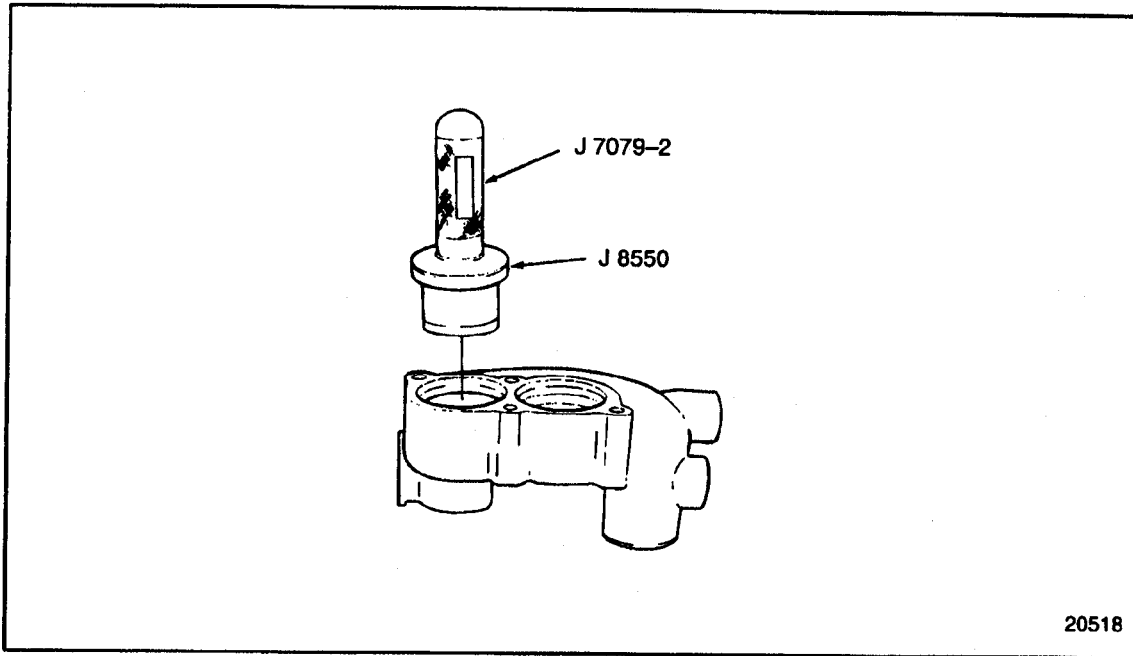

Figure 4-77 Thermostat Housing Seal Insertion
2. Support the thermostat housing on a work bench so that it is level. See Figure 4-77.